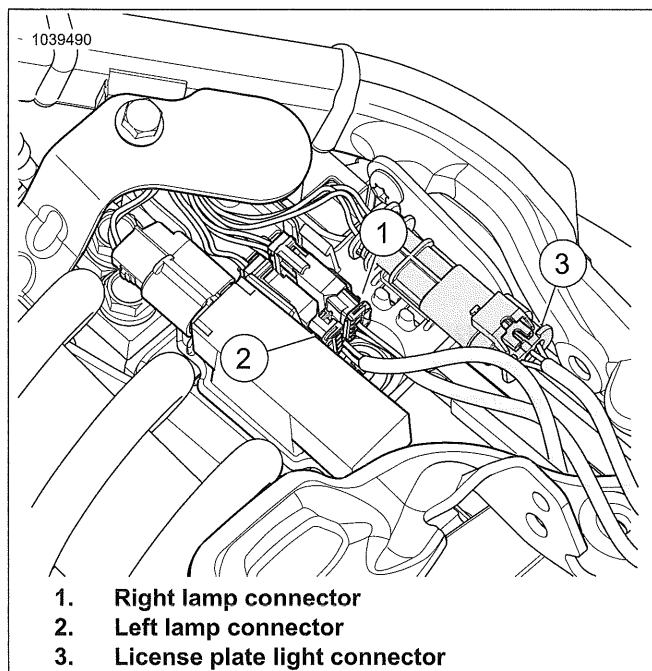

Figure 7-82. Turn Signal Lamp Connectors
1. See Figure 7-82. Disconnect connectors (1-3).
2. Route wire harness (2) through license plate holder (3) and support bracket assembly (1).
4. See Figure 7-82. Connect pins to 4-pin connector (1 or 2). See electrical diagnostic manual.